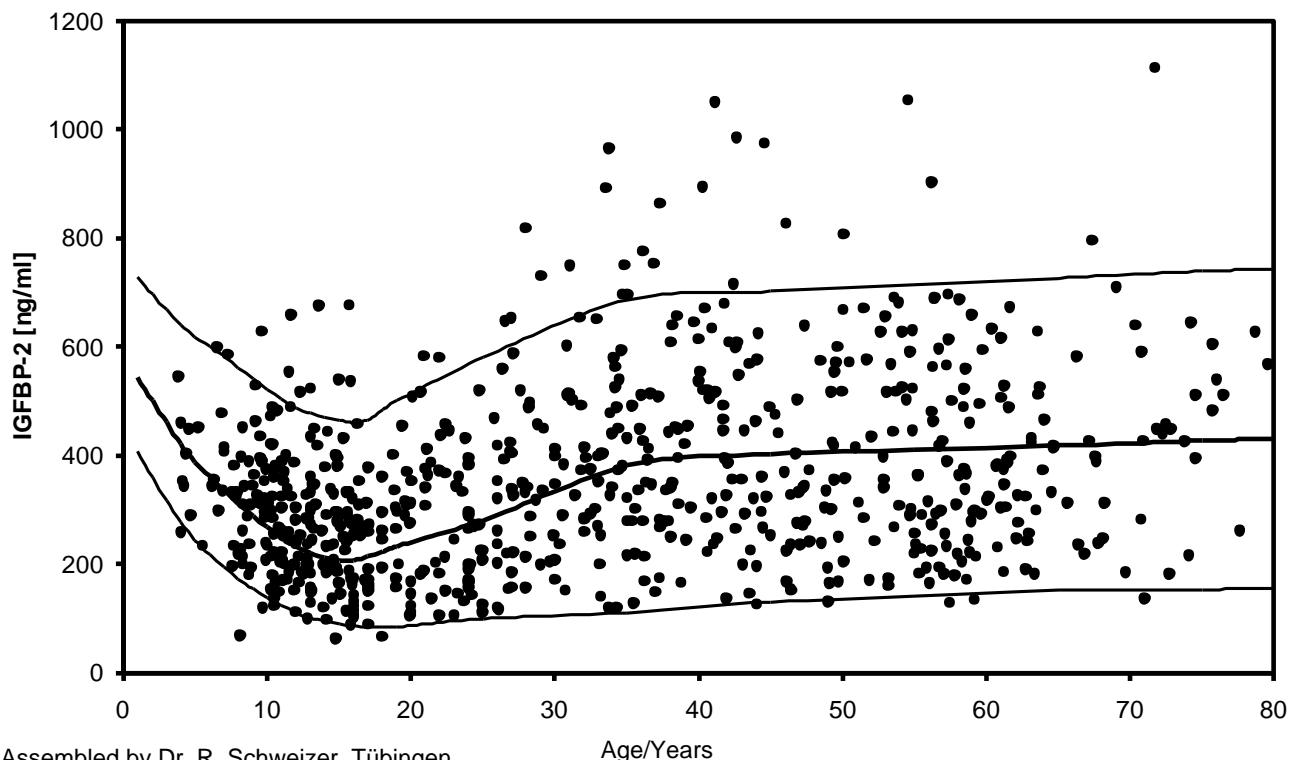

Fig. 2: IGFBP-2 serum levels (in ng/mL) of > 400 healthy individuals. The normal range is given by the 5th, 50th and 95th percentile.
The IGFBP-2 concentration in serum is depended on Body Mass Index (BMI; Table 1) and on age (Table 2). For data collection of these reference values IGFBP-2 levels were determined in serum of over 400 normal children and adults (see table 2 figure 2); (3).